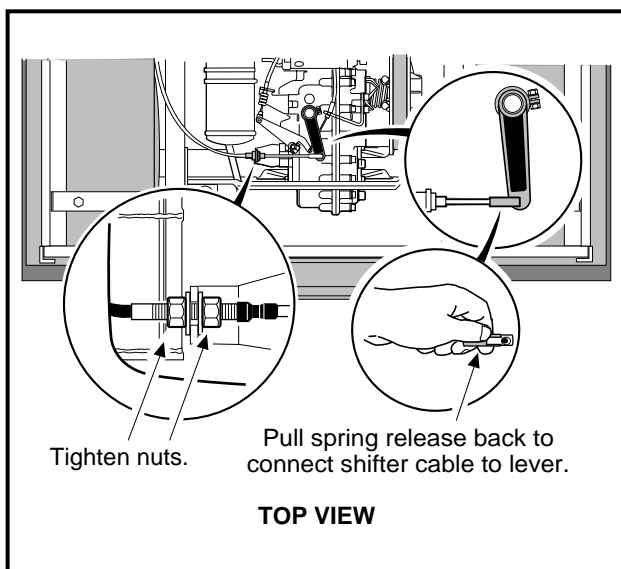

Figure 16-96 Connect Shifter Cable
26. Position the shifter cable in the shifter cable mounting bracket on the transaxle and tighten the mounting nuts to 22 ft-lb (29.8 N·m). Connect shifter cable rod end to the shifter arm **(Figure 16-96, Page 16-39)**.